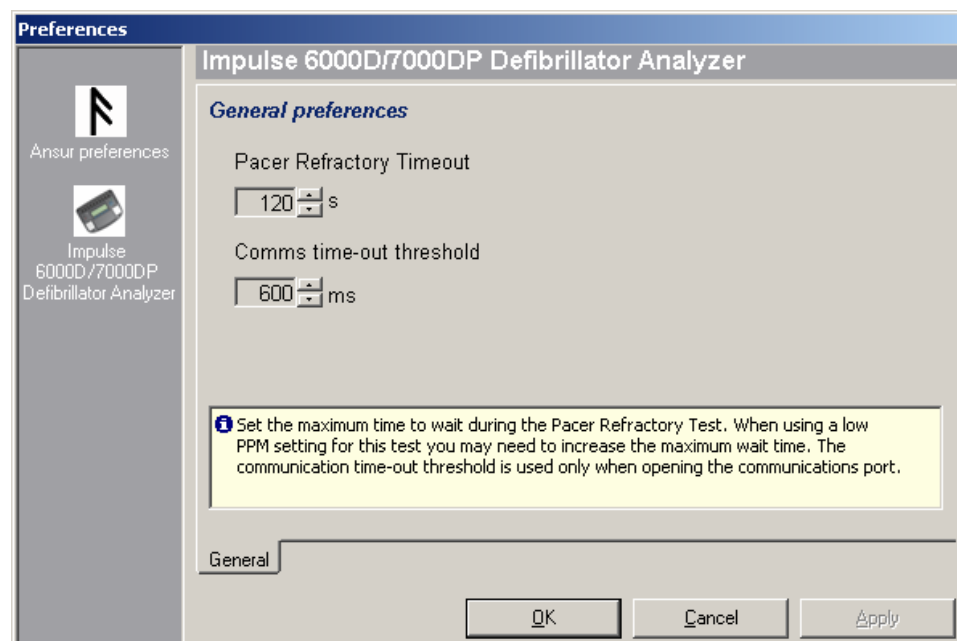

Figure 2-5. Defibrillator Analyzer Preferences
2. Click **Tools | Options** to display the **Preferences** window shown in Figure 2-5.